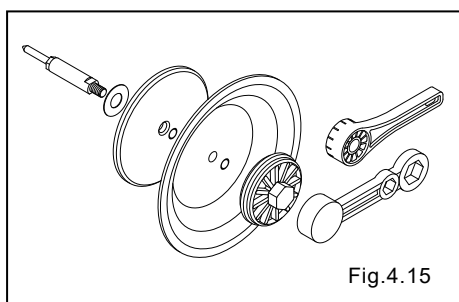

Fig.4.15
- Install the O ring at the center disk. (□T, AD-10□C and AD-10□N) [Fig.4.14, Fig.4.15]
- Apply the screw locking agent and tighten the center disk with dedicated tool. (part No.771244 :AD-25P□,VT or part No. 771868 :AD-40P□, AD-50P□)[Fig.4.15]